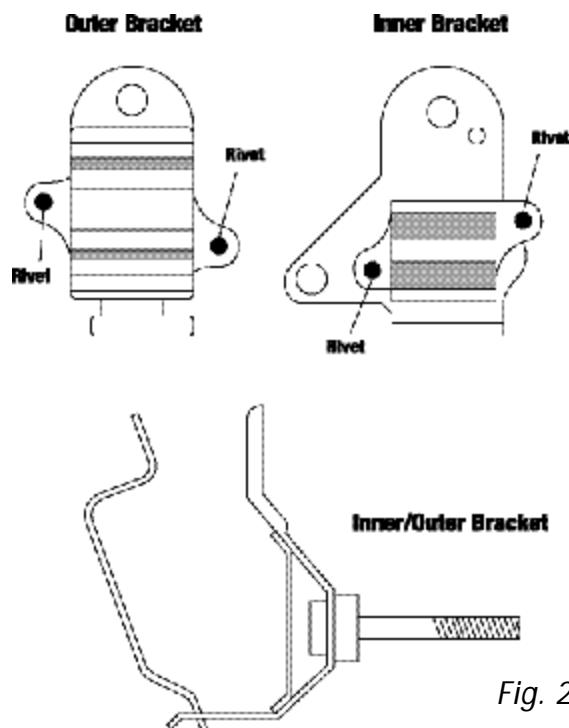

Fig. 2
4. Drill or grind off the rivet heads (See Fig. 2) and disassemble bracket assembly and discard the factory rubber bushing.